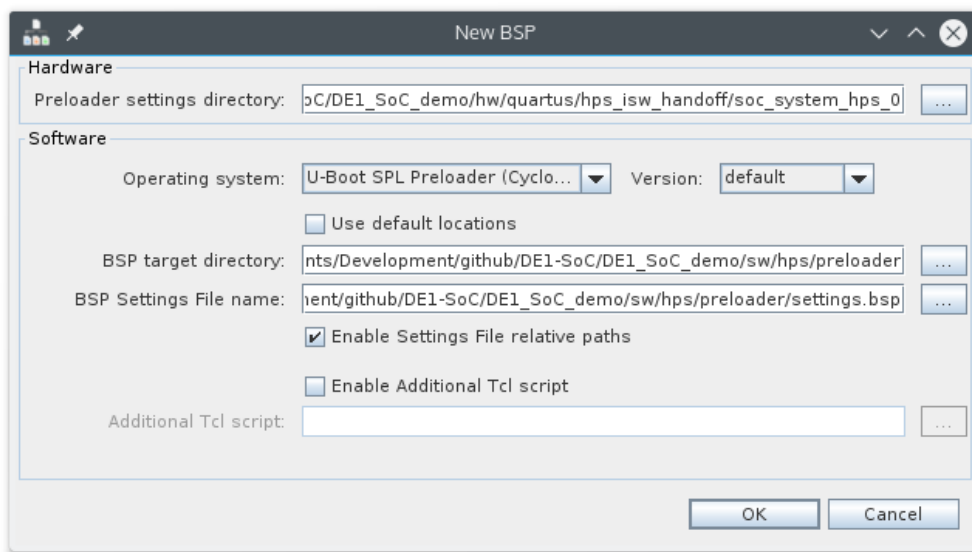

Figure 12-1. New BSP Dialog
- b. Disable the “Use default locations” checkbox and under the “BSP target directory”, select the “DE1_SoC_demo/sw/hps/preloader” directory. You should have something similar to Figure 12-1.